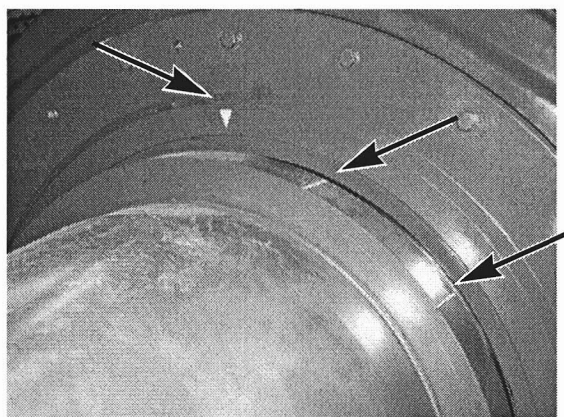

Fig. 60 Markings on rotor shaft and rotor bearing housing
- By actuating the *Release Brake* button on the manual control unit of the Topbox, temporarily release the rotor brake and position the rotor so that one of the markings on the rotor shaft is aligned with the marking on the rotor bearing housing, see Fig.60